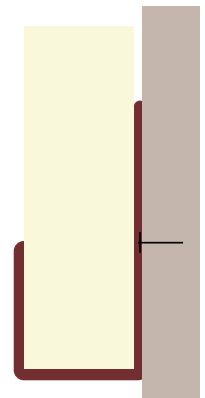

Figure 2
5. Apply a 3/8” bead of sealant to the bottom flange of all J-Channel molding (Figure 2).